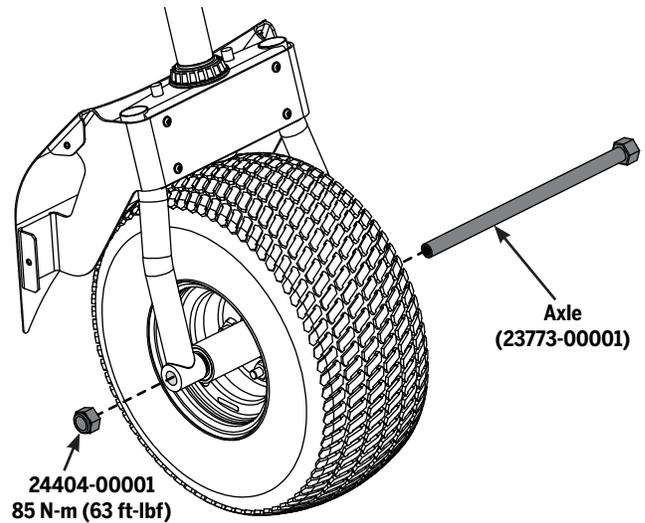

Figure 84: Front Axle Removal
4. Using a 30 mm socket wrench, remove the axle and slide it out. See **Figure 84**.
11. Slide the axle through the forks and wheel assembly. See **Figure 84**.